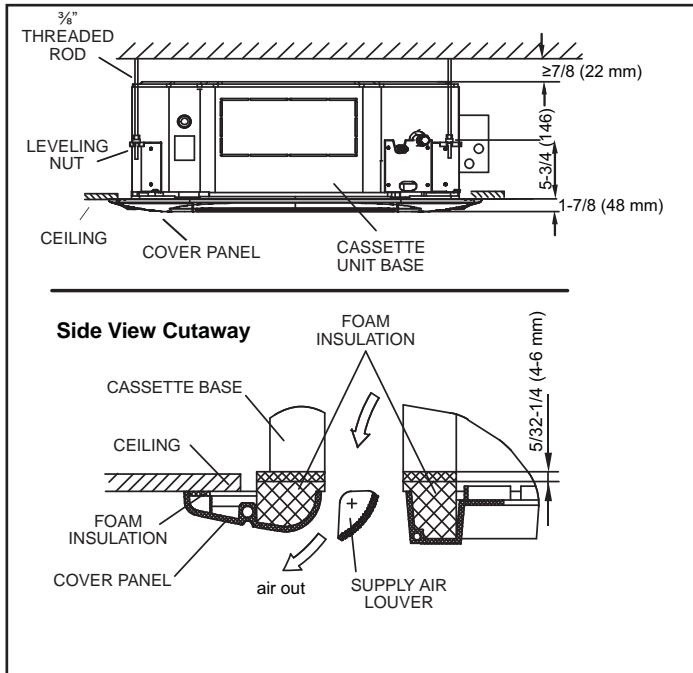

**Figure 20. Remove Corner Covers**
3. Remove access covers from each corner of the panel. See figure 20.